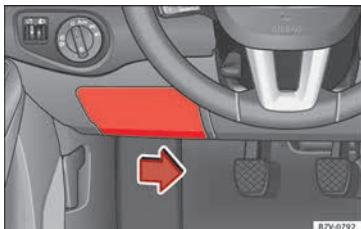

Fig. 60 On the driver-side dash panel: fuse box cover
- To remove the cover, move the activation lever in the lower part to the right » **Fig. 60**.